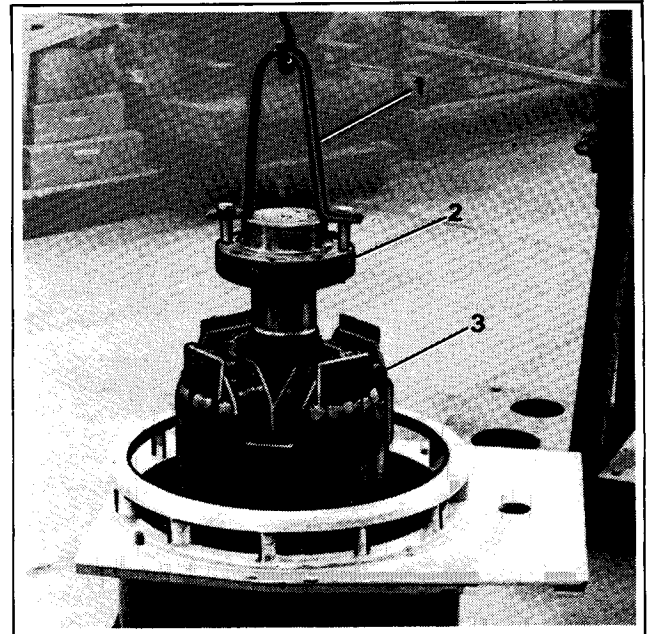

**Figure 4-28. Generator Assembly**
12. Carefully hoist generator assembly (end bracket down) into a vertical position. Assembly should rest on wood blocks (Figure 4-28).